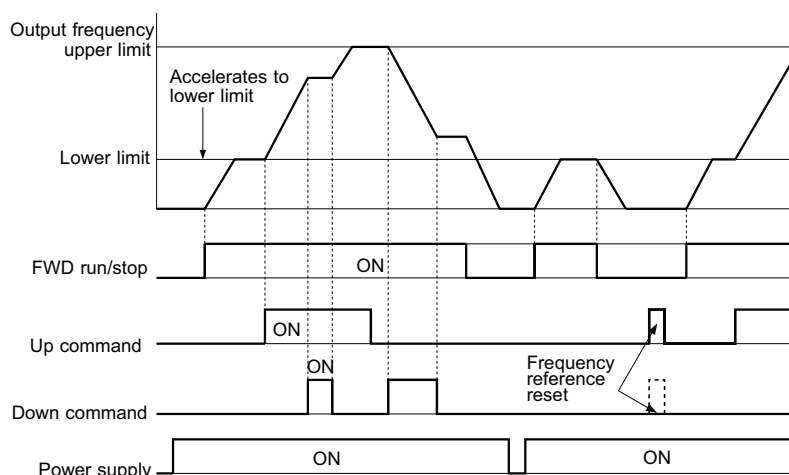

Figure 5.49 Up/Down Command Operation
**Figure 5.49** shows an Up/Down function example with a lower frequency reference limit set by d2-02, and the frequency reference hold function both enabled and disabled.